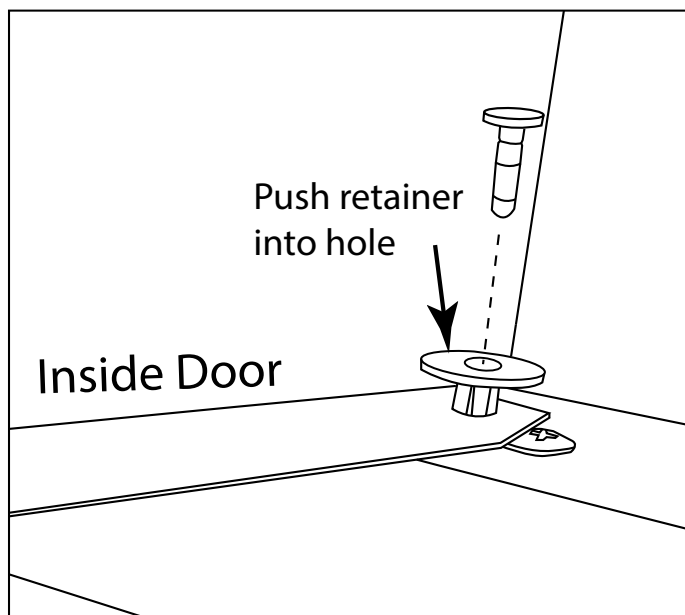

Fig. 6 Installing push retainers.
Step 6: Pick up the door out of the box and peel the plastic protective coating off the metal. Align the holes in the door ends with the two holes at the top and bottom of the face plate. Using the two push retainers, pull the top pin out of the base and insert the base into face plate holes. When the base is pushed all the way down against the end, insert the pin to lock the push retainer into place. See Fig. 6.